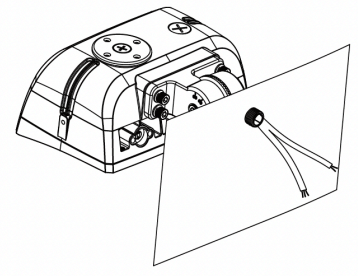

Fig 1.4
5. Pass threads of Knuckle Mount through mounting surface and secure with lock nut (Fig 1.4).